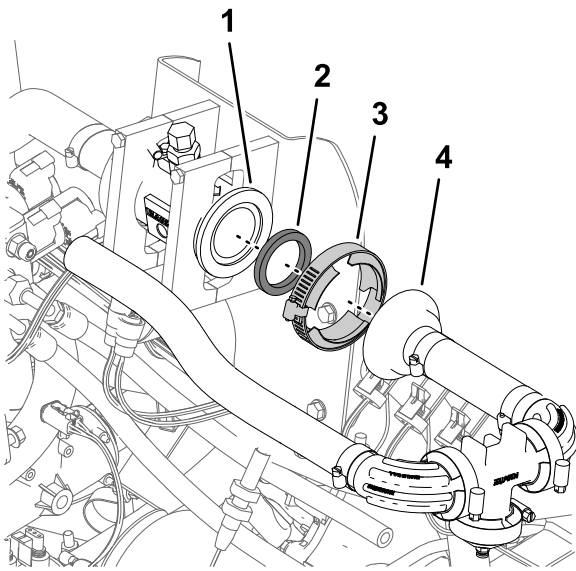

Figure 89
2. Tighten the flange clamp by hand (Figure 89).